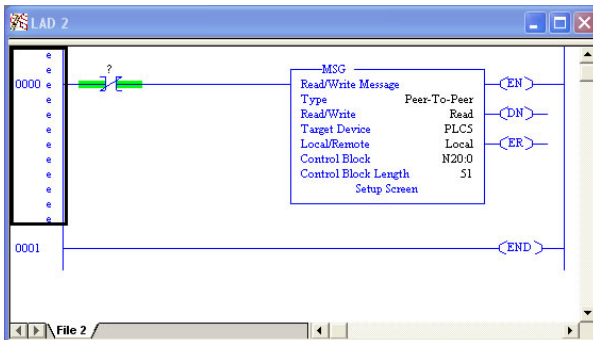

Figure 117: PLC Program after MSG Instruction Configuration
- f) Close the dialog box. At this point, the program should appear as shown in Figure 117.